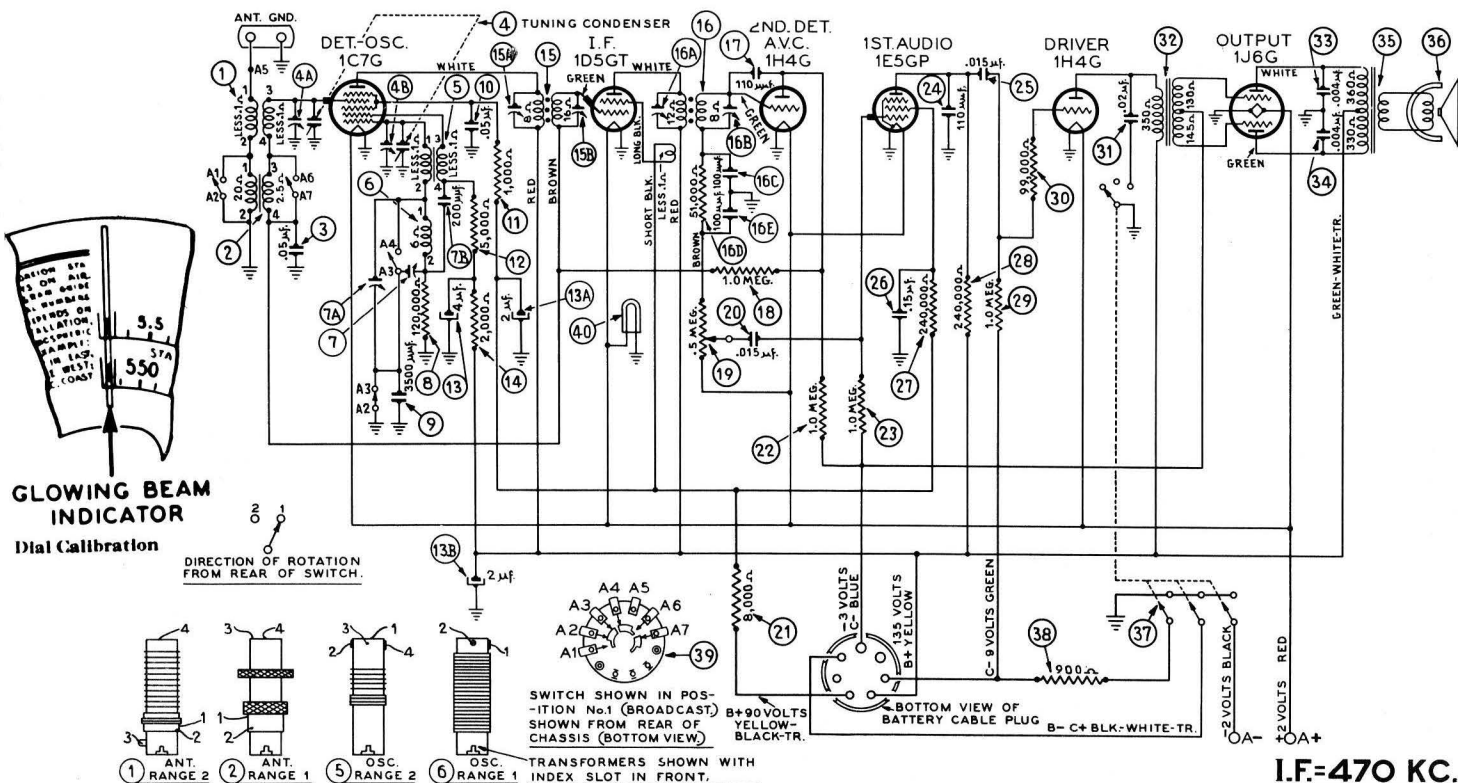

Fig. 3. Schematic Diagram 38-10, Code 121
2. Holding the tuning condenser in this position, loosen the dial clamp; then turn the dial until the indicator is centered on the middle index line. Tighten clamp in this position. See Fig. 3